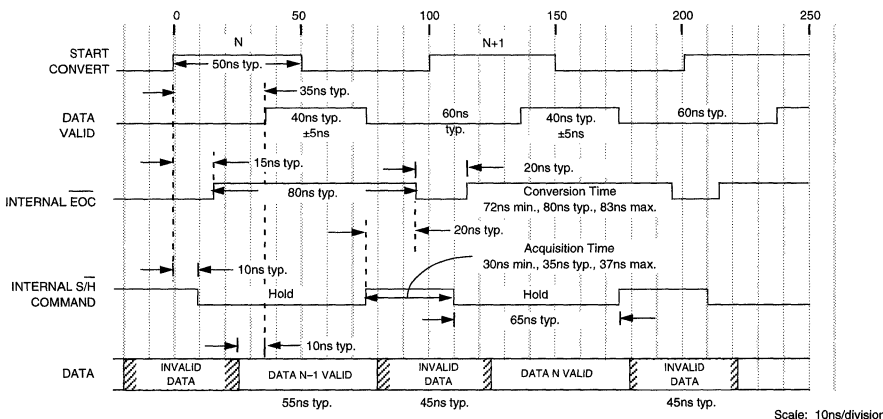

Figure 2. ADS-119 Timing Diagram
- Data is valid only for the time period (55ns, typical) shown in Figure 2 even if the device is sampling at less than 10MHz.